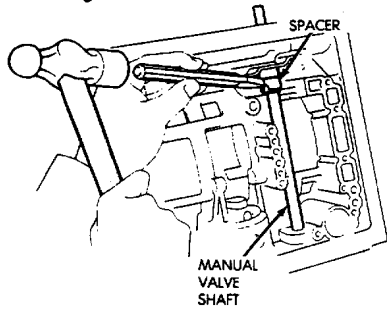

Fig. 2 Cutting Shaft Spacer Sleeve
- (1) Remove shaft spacer sleeve in half with chisel and remove it from lever and shaft (Fig. 2).